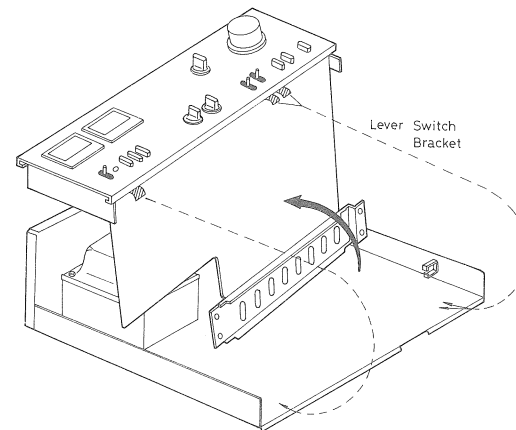

Fig. 8
11. Set the printed circuit board on the chassis as indicated in fig. 8.
13. Mount the lever switch bracket inside the chassis prior to resetting the front panel, as shown in fig. 8.